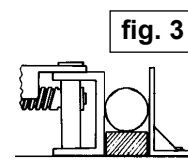

fig. 3
- 4.1.1. Ensure that the saw is unplugged from the power supply and then secure the workpiece in the base vice (fig. 1.5). We recommend that you place a block of wood (slightly narrower than the workpiece) in the vice below the item to be cut to act as a support (fig. 3).